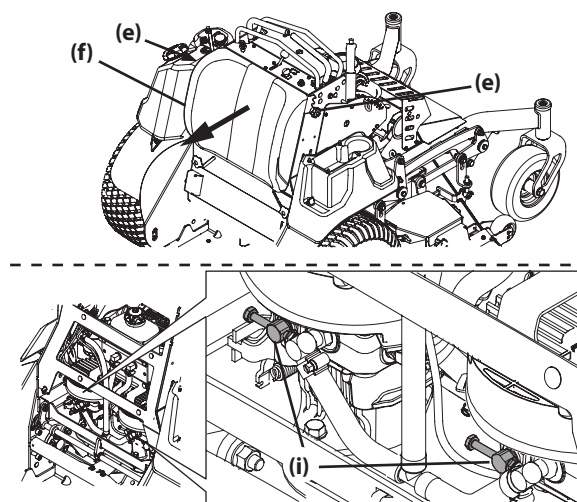

Figure 2
3. Perform the following to open the two hydrostatic transmission bypass valves (Figure 2):